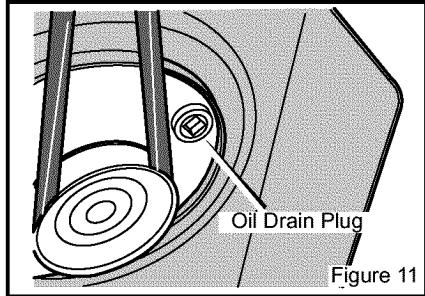

Figure 11
2. Remove the **oil drain plug** (see Figure 11). Drain the oil into a flat pan.